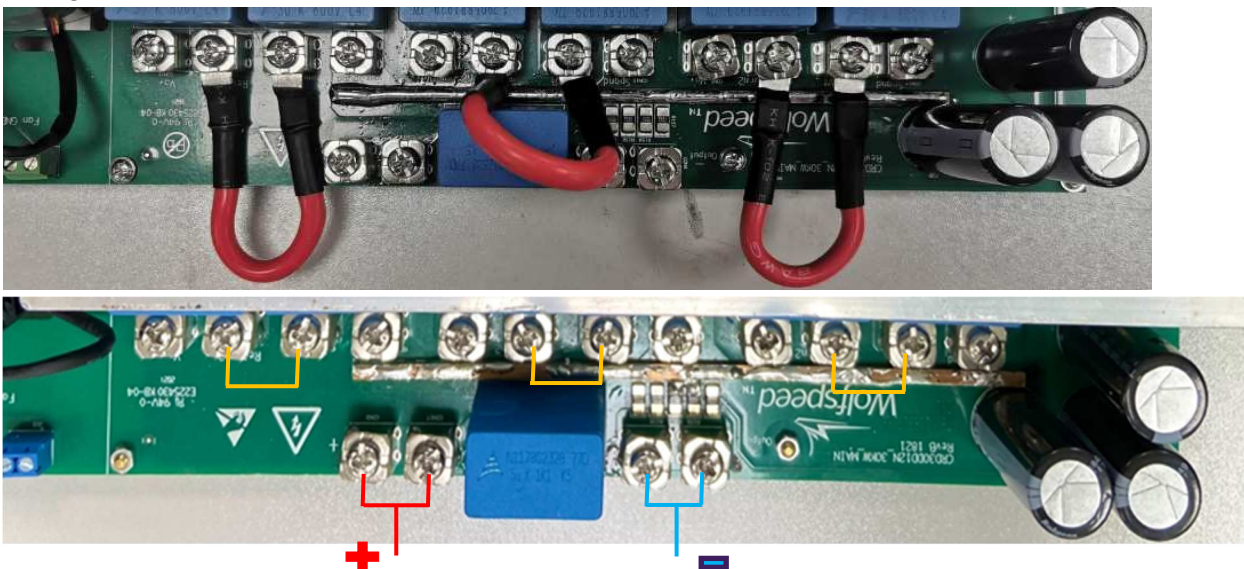

Figure 10a: Wiring approach of Secondary side
**Parallel /series terminals:** Refer to Figure 10a for wiring details to connect the output in parallel or series mode.